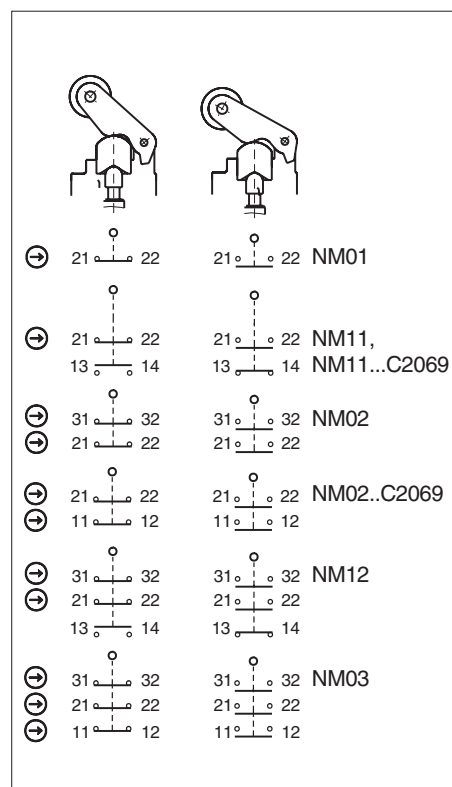

Fig. 3: Switching elements and switching functions
At least one contact  $\ominus$  must be used. This signals the position of the guard (for terminal assignment, see Fig. 3).
3. Connect and tighten terminals with 0.5 Nm (for terminal assignment, see Fig. 3).